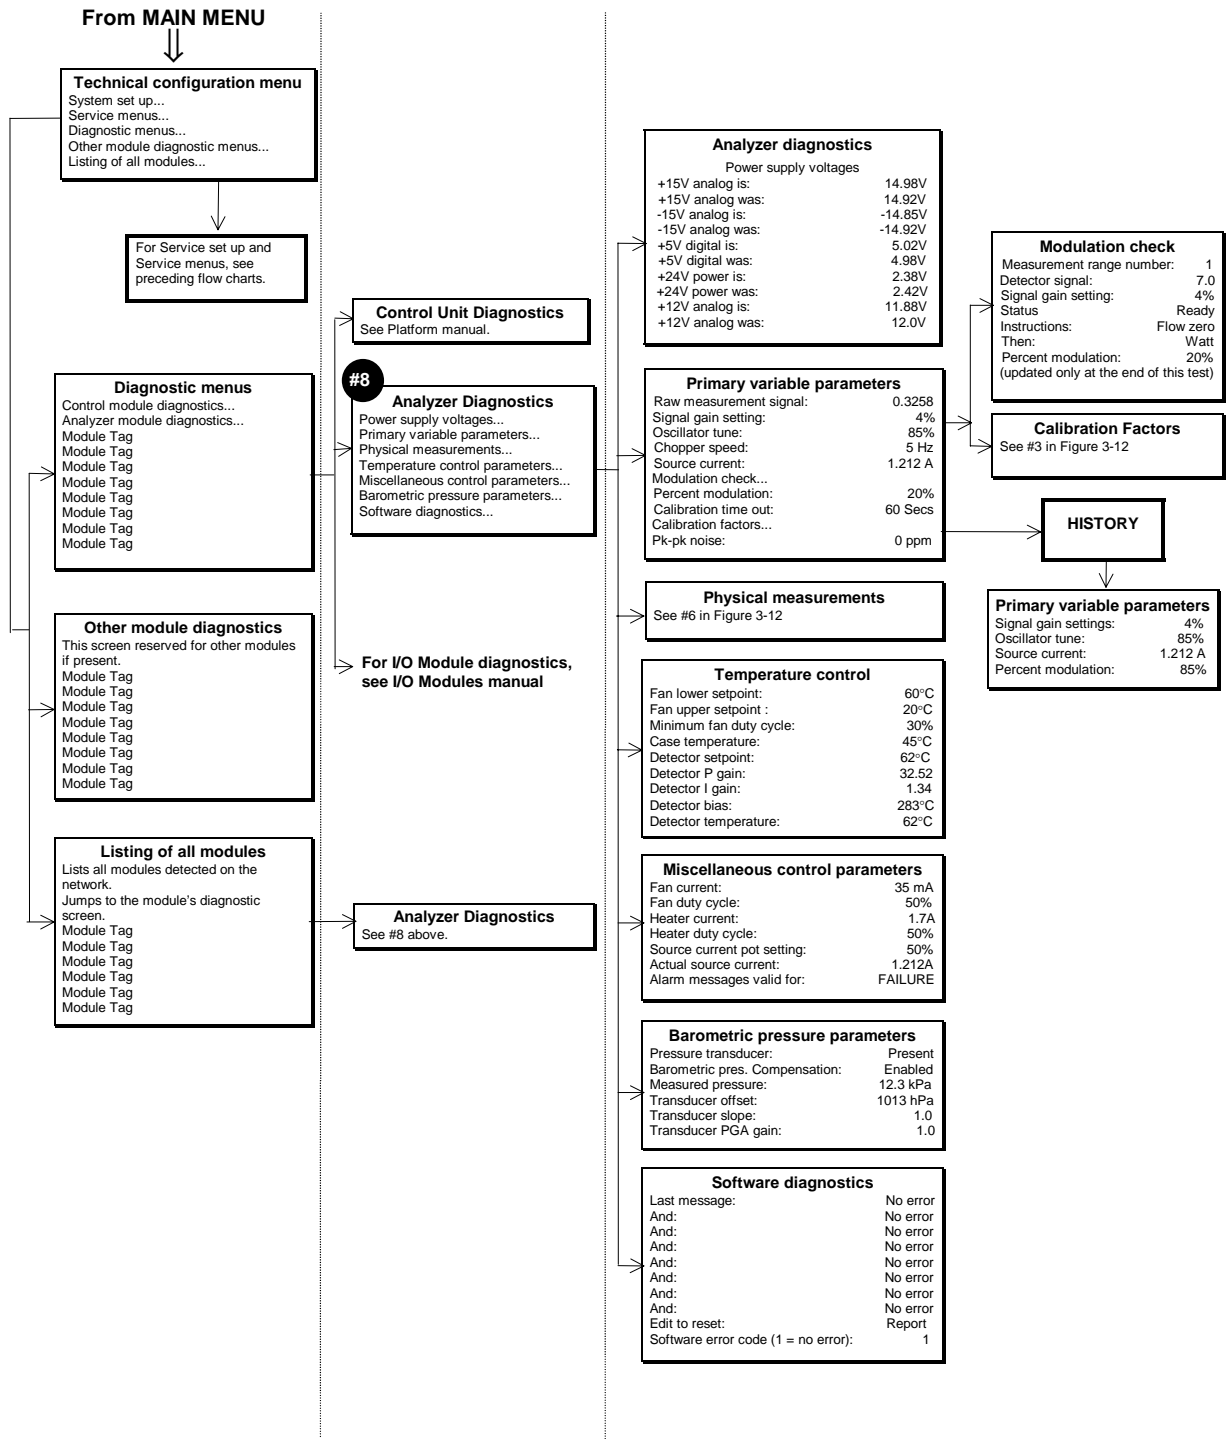
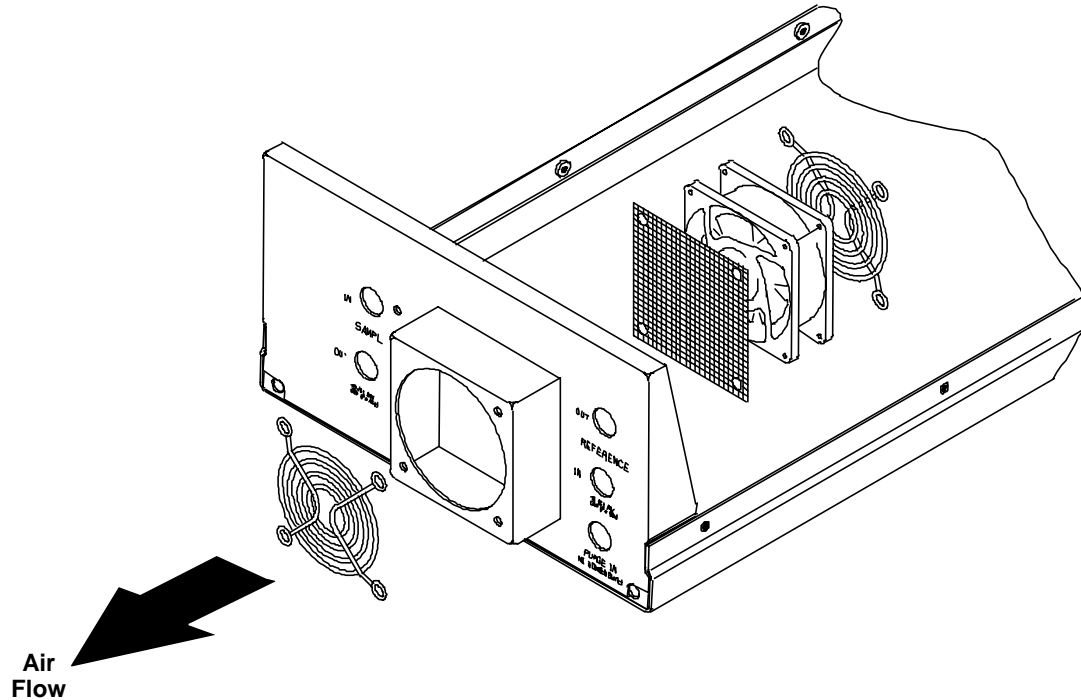
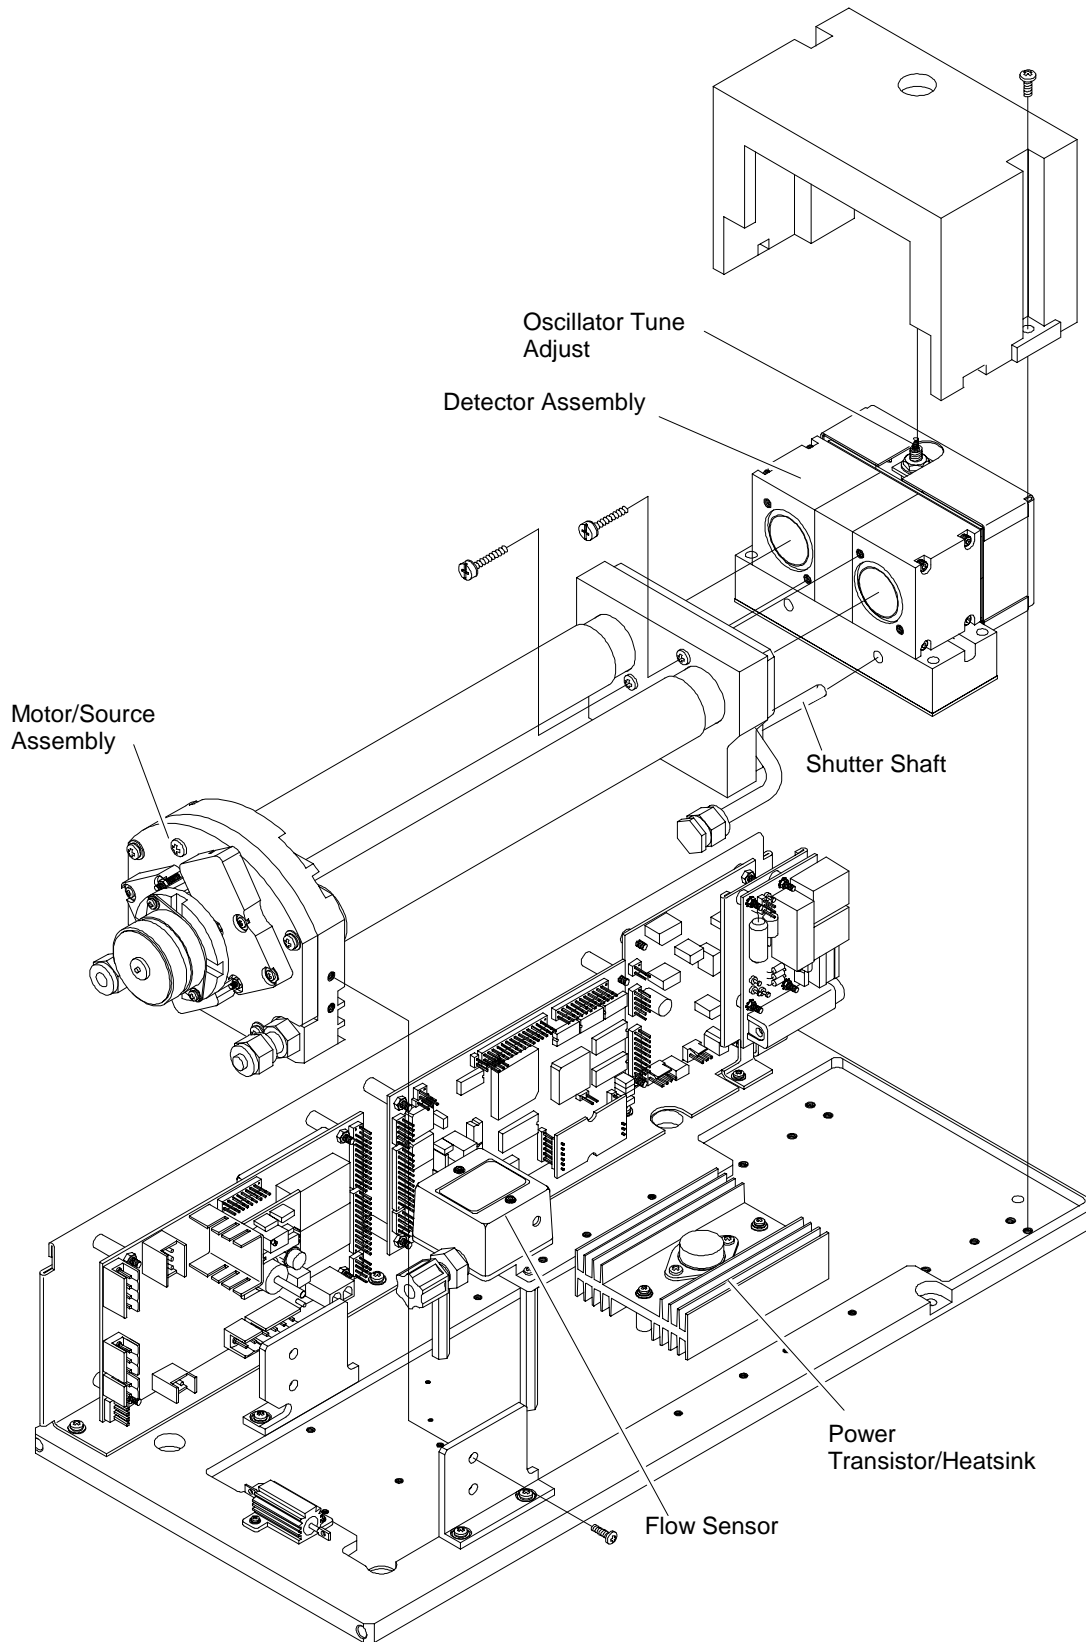
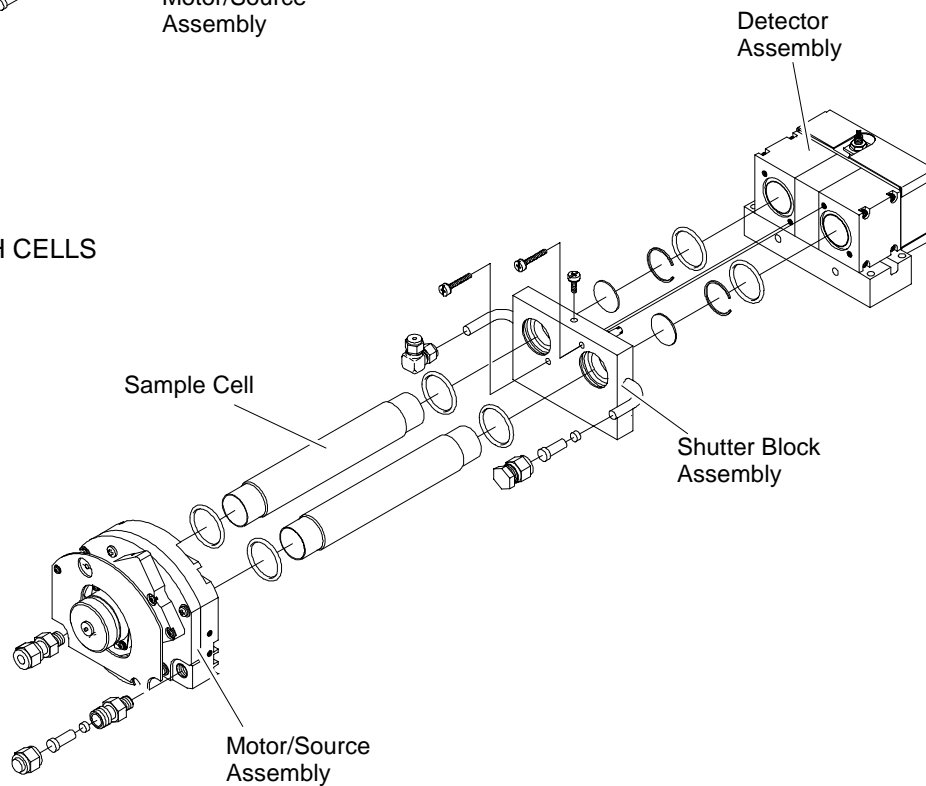

FIGURE 3-13. DISPLAY SCREENS (5 OF 5)
FIGURE 4-2. MODULE FAN ASSEMBLY
FIGURE 4-4. CELL, PCB ASSEMBLY (EXPLODED VIEW)
FIGURE 4.7. CELL DISASSEMBLY
The Analyzer Module fan assembly is disassembled as shown in Figure 4-2. Before doing so, though, the entire optical bench must be removed. See Figure 4-4.
See Figures 4-4 and 4-6 for breakdowns of the optical bench. The entire optical bench must be removed in order to perform this disassembly.
See Figure 4-4 for Flow Sensor location. To replace Flow Sensor, remove all connecting hardware and undo connections to the sample line.
The Analyzer Module is calibrated, tuned and balanced at the factory. If the diagnostic values for oscillator tune and detector signals are within $\pm 5\%$ of the factory settings (see Figure 3-13, in Primary Variable Parameters and Modulation Check menus), no adjustment is necessary. If not, see Figure 4-4 and 4-5 for Oscillator Tune and Source Balance Shutter adjustments, and do the following:
2. See Figure 4-7 to identify which detail drawing best matches the configuration in question.
4. Disassemble the optical bench according to Figure 4-4 and the cells according to Figure 4-7.
13. After cleaning cells, the Analyzer Module must be optically aligned if the diagnostic values for oscillator tune and detector signals are not within $\pm 5\%$ of the factory settings (see Figure 3-13, in Primary Variable Parameters and Modulation Check menus). If they are not within that range, follow Steps 7 through 10 of Section 4.11.
The reference cell may use a flowing reference. If so, desiccant is required. A desiccant holder is used on the inlet and outlets to keep moisture from entering the reference cell (see Figure 4-7). The desiccant should be replaced each time the cell is opened, refer to Table 4-1. Before inserting desiccant, purge cell with dry inert gas (i.e., N₂).